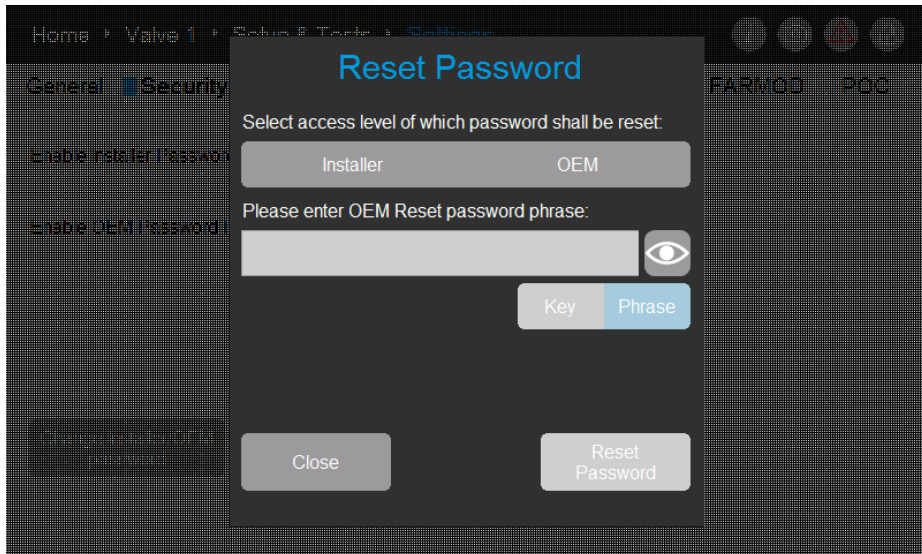

Fig. 91: Reset Password dialog box.
- b. If the user is logged out, the Password Reset dialog box is opened. Refer to Fig. 91.